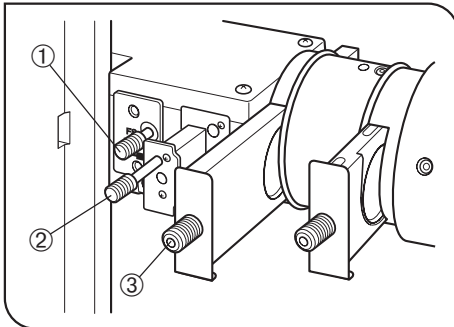

Fig. 6
(Figs. 6 to 8)
⊙ Open the field iris diaphragm ①, set the slit selector lever ② to the OUT position and set the wedge prism ③ to the vacant position before the following adjustment. (Fig. 6)